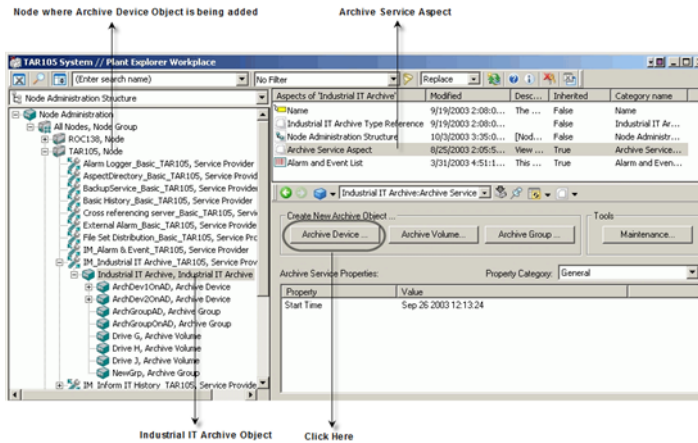

Figure 46. Adding an Archive Device in the Node Administration Structure
To add an Archive Device object (reference Figure 46 for steps 1-4):
2. Expand the object tree for the node where the archive device is being added (for example, TAR105 in Figure 46).